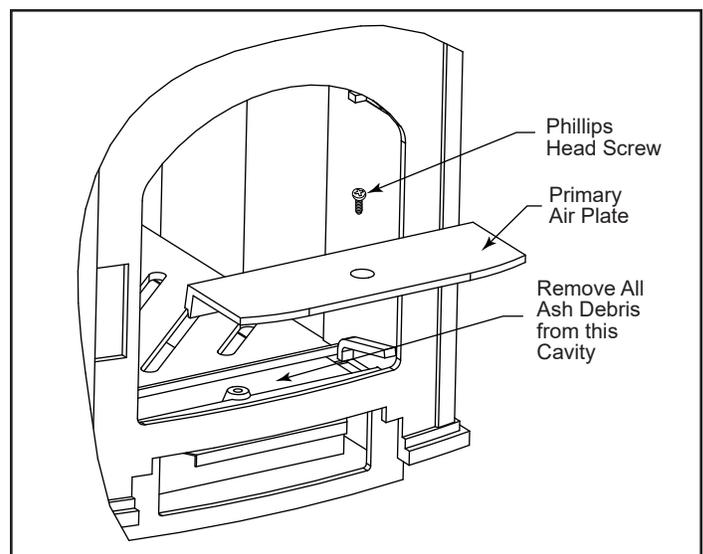

Figure 9.3 - Remove phillips head screw and primary air plate to clean ash from cavity.
1. Remove the phillips head screw that retains the Primary Air Plate. (Figure 9.3)